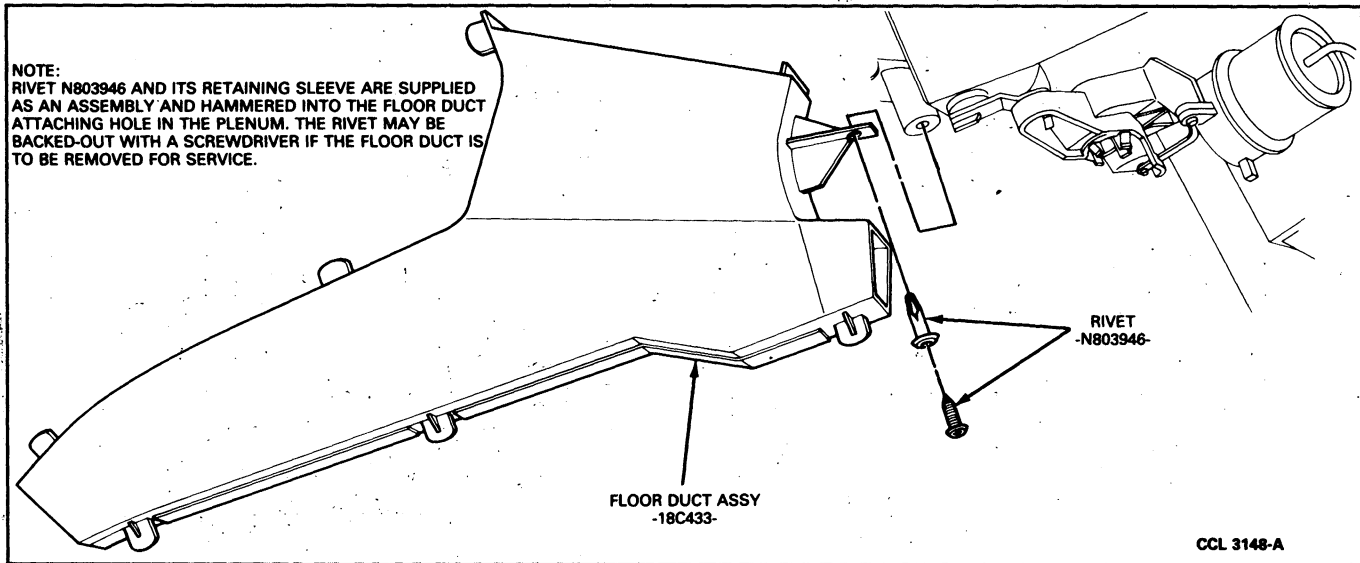

FIG. 12 Floor Duct
3. Disengage the floor duct from the plenum (Fig. 12).